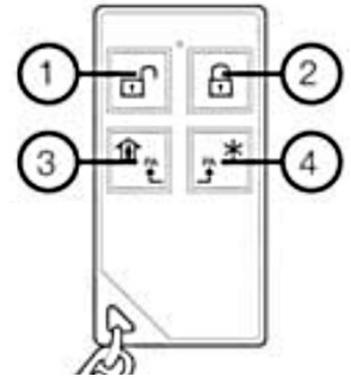

Figure 24. Keyfob Crow FW2-RMT-8F
2. Keyfob – delete the previous registration by pressing the ② and ③ buttons at the same time. Registration – press ③ and ④ buttons at the same time (see Figure 24);